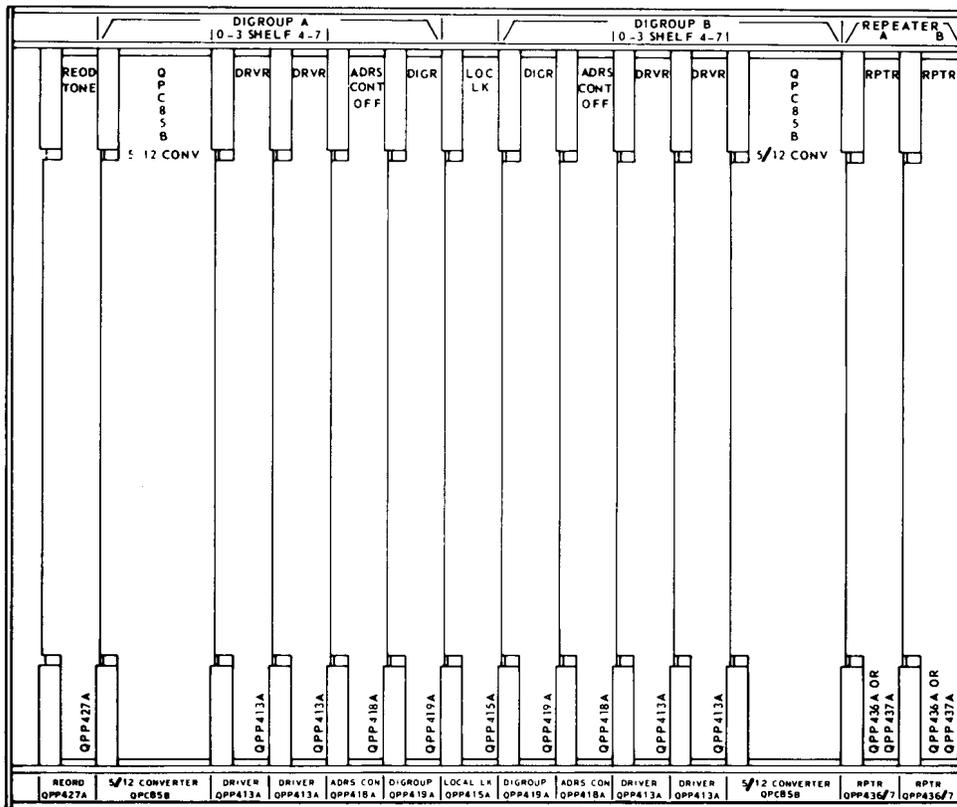

Fig. 1 – CCT Common Shelf 1
- 1.1 Plug one end of a patch cord (P3Q1) into the X IN jack on the digroup A repeater (see Fig. 1), and the other end into the X OUT jack on the same repeater.